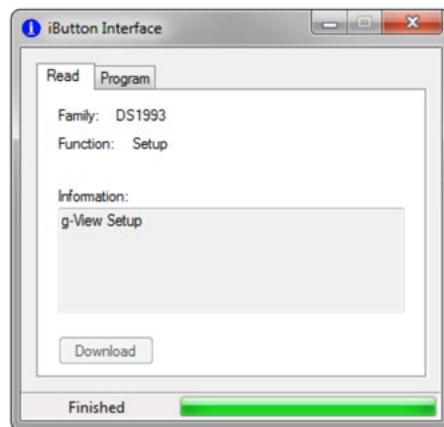

Figure 15
7. If you click the Read tab, the iButton will be interrogated, and the Function will now show as Setup (Figure 15).